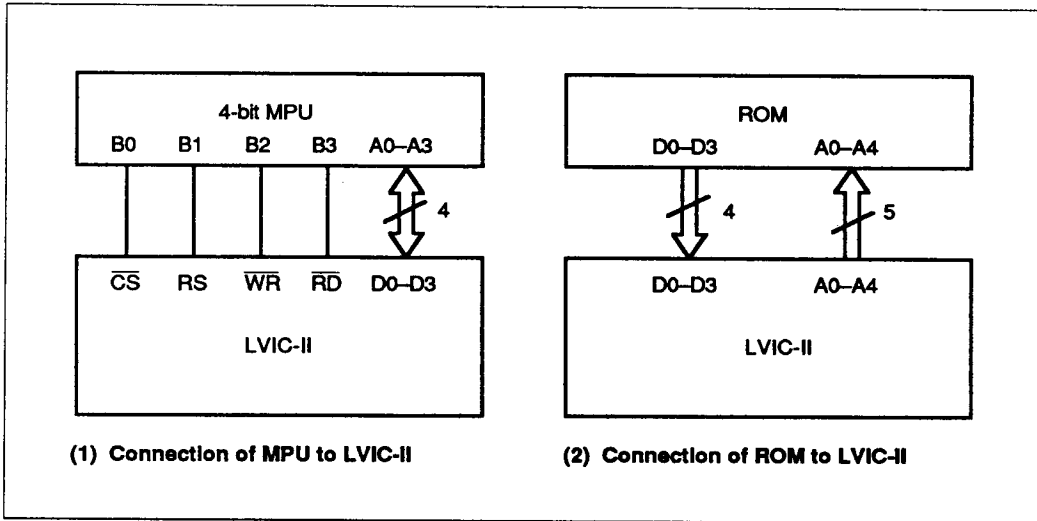

Figure 3 Connection of MPU or ROM to LVIC-II
Internal Register Programming Method: An MPU or ROM is used to write data into the LVIC-II's internal registers to control functions. Figure 3 shows the connection of either an MPU or ROM to the LVIC-II. Although figure 3 (1) shows an example of the use of a 4-bit microprocessor, the LVIC-II can also be connected directly to the host MPU bus since the LVIC-II MPU bus is compatible with the 4-MHz bus of 80-series microcomputers.